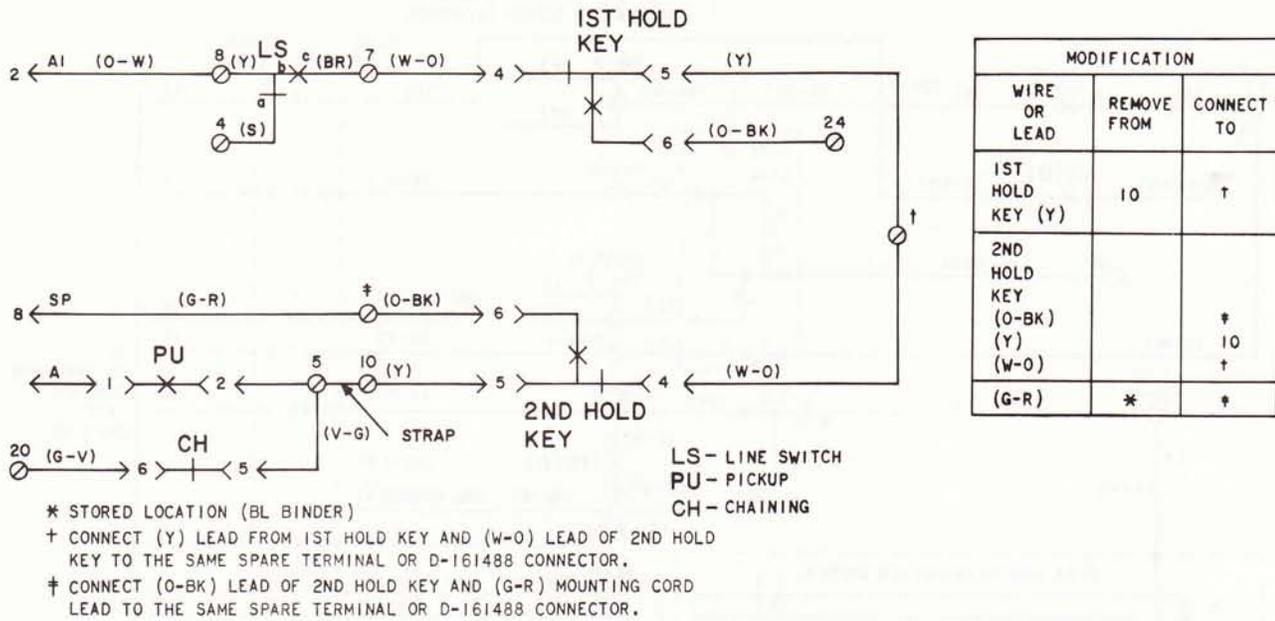

Fig. 6—Modification for Priority Hold
- (1) Unplug and remove existing 635G5C key from second module.
- (2) Install contact strips and associated leads if applicable (see note).
(3) Place the pink plug assembly from the kit of parts into the hold position on the 635A5C key. Insulate and store the white set plug. Place remaining set plugs into their proper positions on the key.
(4) Make the necessary wiring connections and modifications as shown in Fig. 6.♦